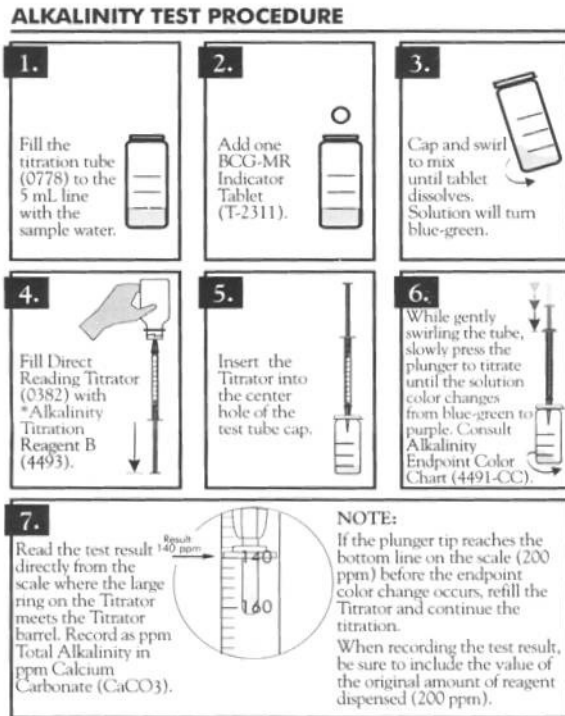

Figure 8.
- Record measurements on Form 1 and in the data logger. Specific instructions below (Figure 8).